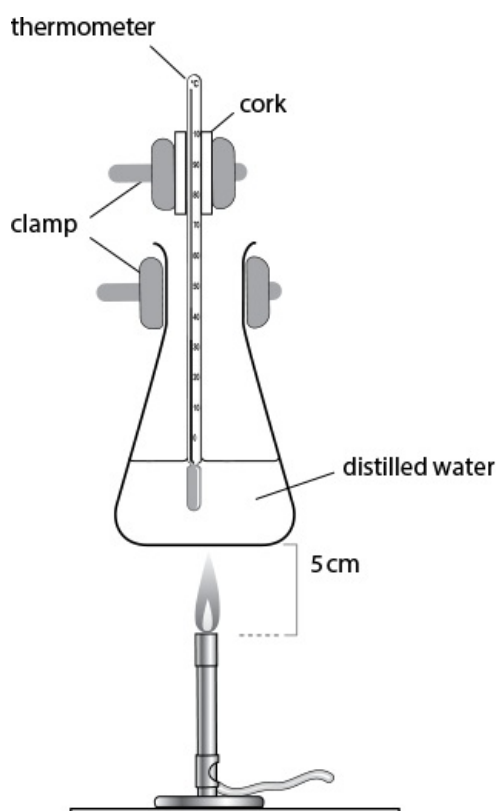

Figure 11.1: Heating water
- 2 Set up the apparatus as shown in Figure 11.1 with the Bunsen burner unlit.